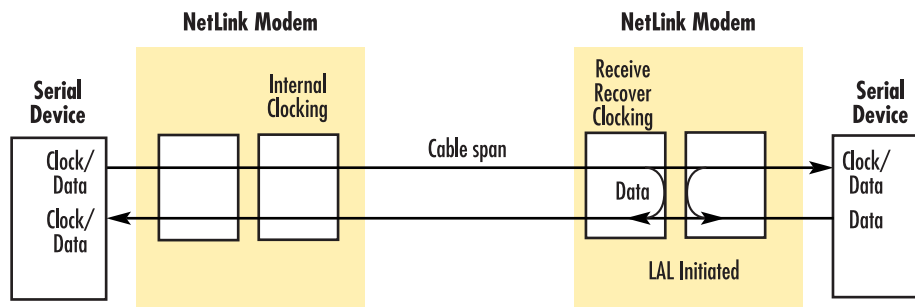

Figure 144. Local loopback diagram
- **lal** (local loopback)—The local loopback test checks the operation of the local NetLink modem. Any data sent to the local NetLink modem in this test mode will be echoed (returned) back to the originating device (i.e., characters typed on the keyboard of a terminal will appear on the terminal screen) (see figure 144).